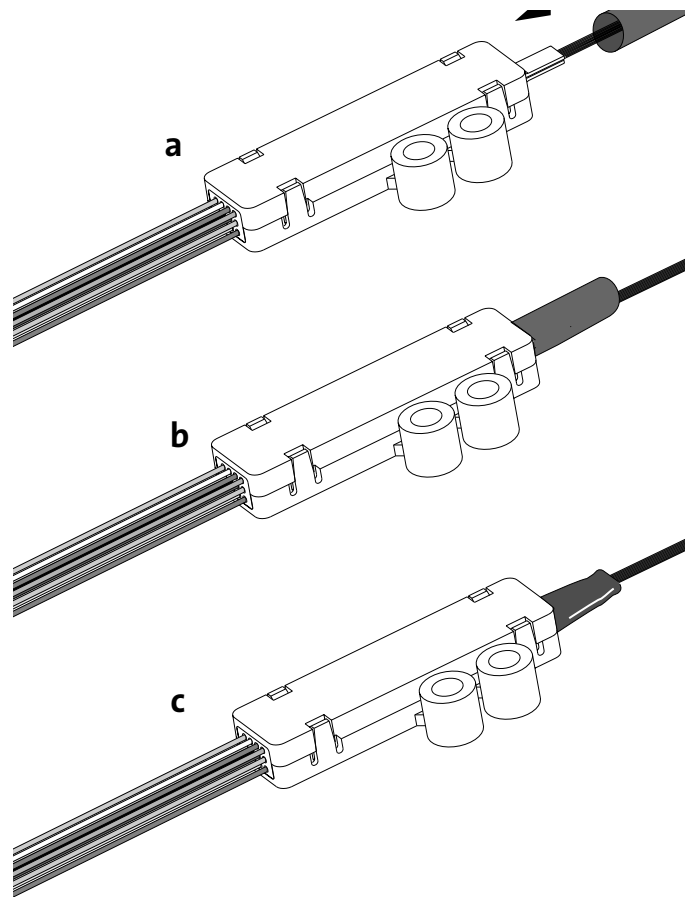

Figure 22
- Work the 0.625-in. long, 3/16-in OD heat shrink down the ribbon to the back of the fan-out body (Figure 22 a).
- Use the heat gun to shrink the tubing in place (Figure 22 c).